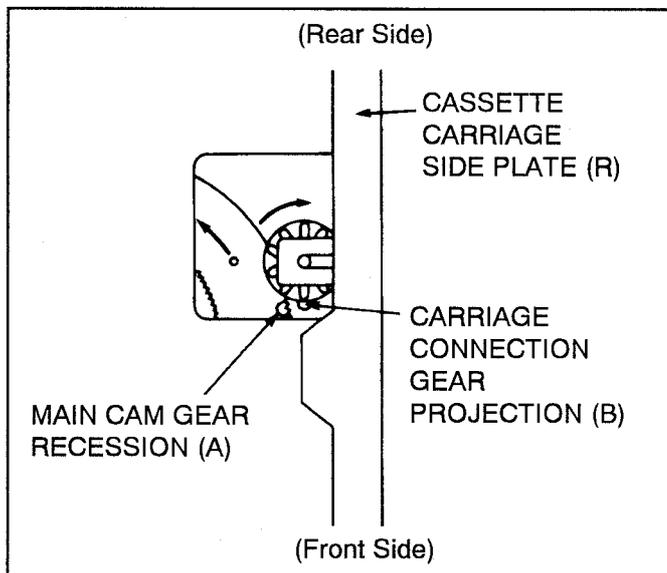

Fig. S11 Top View of Eject Operation
- 1) Connect the battery (Manganese-Type R6 (AA)3pcs./+4.5V) to P2001 as shown in Fig.S11.